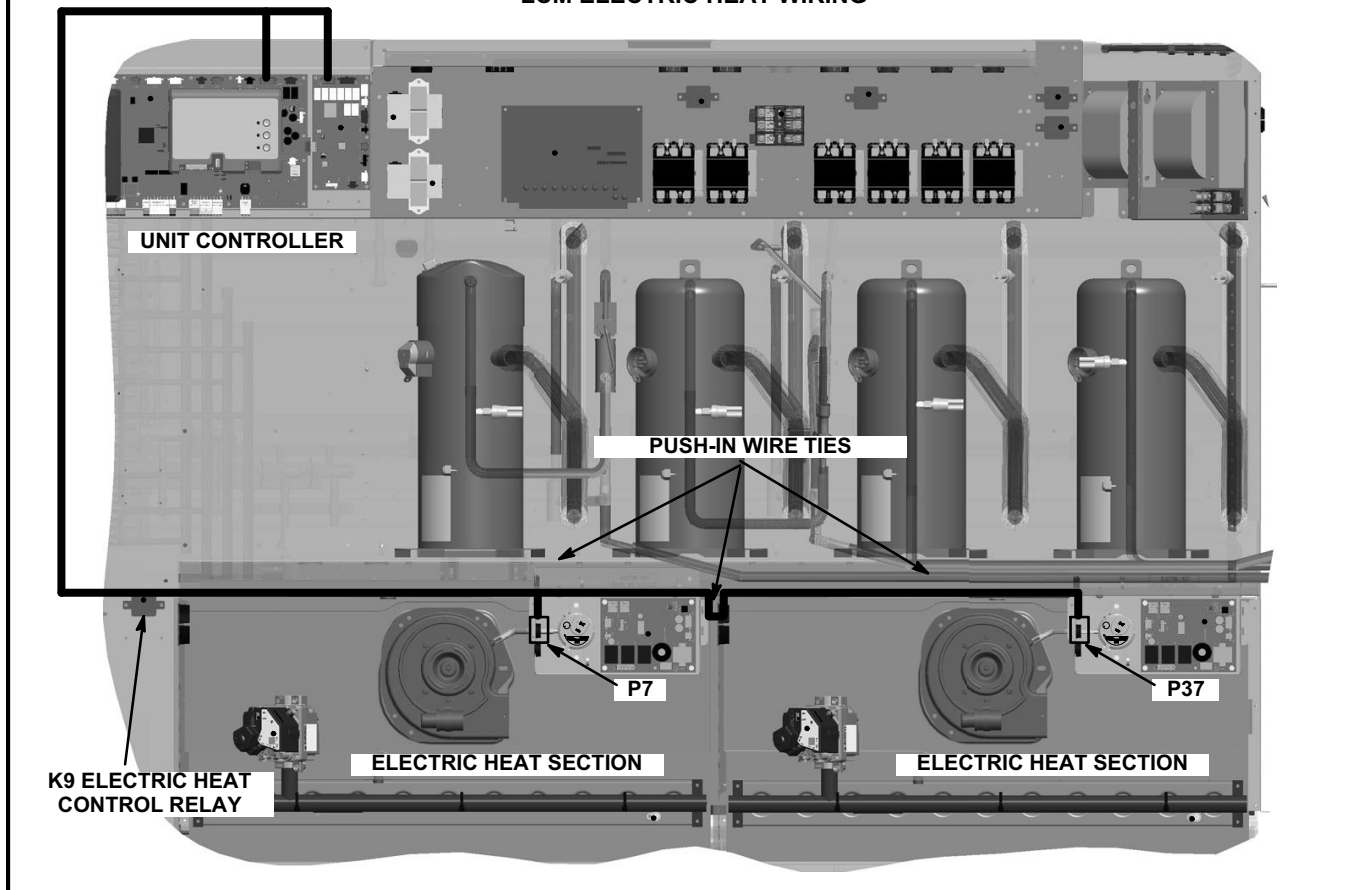

FIGURE 4
- 3- Route the other side of the electric heat power wiring through the bottom of the disconnect box and the side of the electric heat compartment. Connect power wiring to electric heat fuse block F3 or electric heat terminal block TB3. See figure 4.